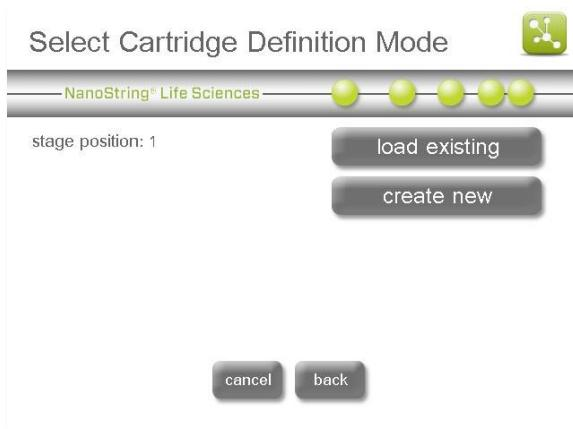

Figure 85: The ‘Select Cartridge Definition Mode’ screen.
- The ‘Select Cartridge Definition Mode’ screen will appear (**Figure 85**).